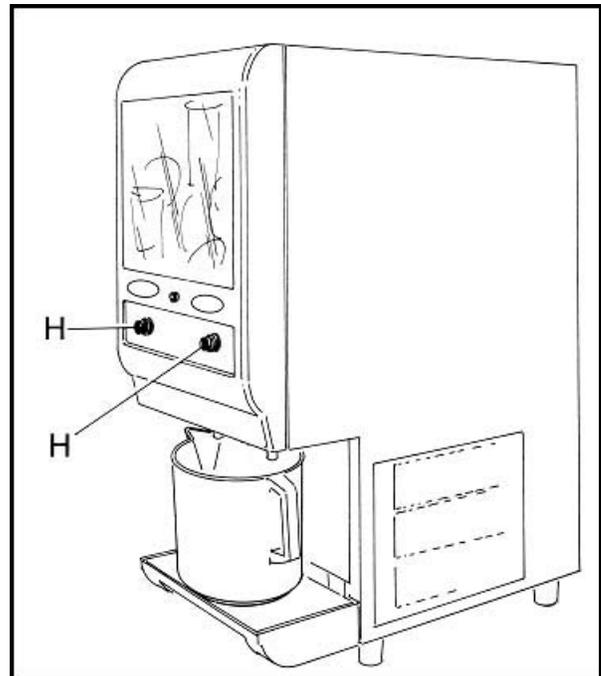

FIGURE 16
2. Press and hold button (H) for 30 seconds, see FIGURE 16.